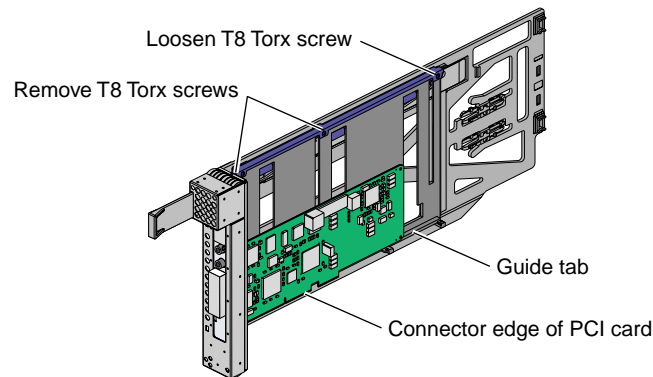

Figure 12-5 Mounting Half-height PCI Card into Carrier
- a. Remove the two screws from the carrier guide bar, as shown in Figure 12-5.
- c. Place the half-height PCI card in the carrier so that the connector edge of the card rests against the lower guide tab of the carrier (see Figure 12-5).